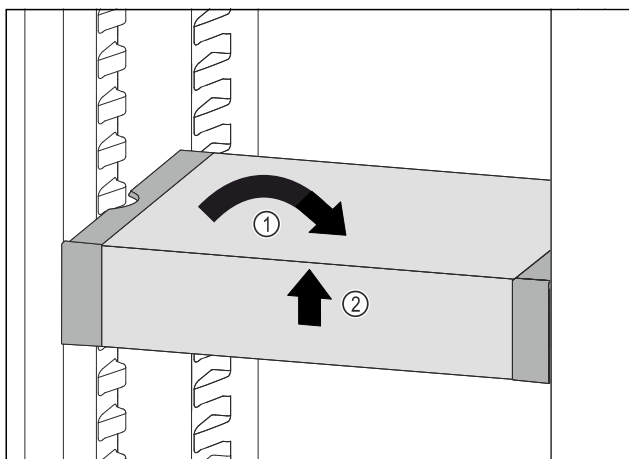

Fig. 177
- Set VarioSafe straight. Fig. 177 (1)
- Lift VarioSafe at the front. Fig. 177 (2)